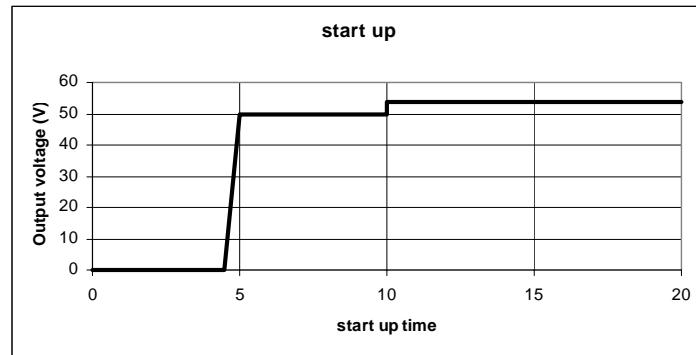

Figure 8
(A) Normal Soft Start Time: Start up time is defined as beginning with the AC being switched on and ending when full output power has been reached. It consists of two time intervals: the delay period (startup time), and the output voltage ramp up period, as shown in the Figure 8.
- (1) During the delay period the output voltage is zero volts.
- (2) Start up time (AC on, till full power) is ≤ 5 seconds.
- (3) Output voltage ramp up period t : $50 \leq t \leq 100$ ms (resistive load 800W/400W/50V, 10 to 90% of full power).